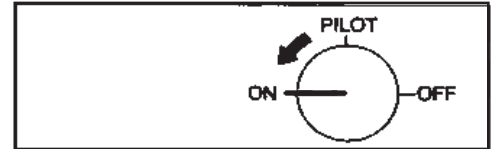

Figure 7- Rotate control valve to On Position to ignite burner
- G. Using pipe sealant the 3" Nipple (Part #15) to the 3/8" Street Elbow attached to the valve assembly and to the 3/8" Female Elbow (Part #16). Connect the 3/8" Female elbow, which is now connected to the entire valve assembly to the Burner Orifice. Using pipe sealant on threads. (See Figure 7)
To light the Burner, turn the Control Knob counter clockwise from the Pilot Position to the On Position (*See Figure 7*). In this position, both the Pilot Burner and Main Pan Burner will be lit.